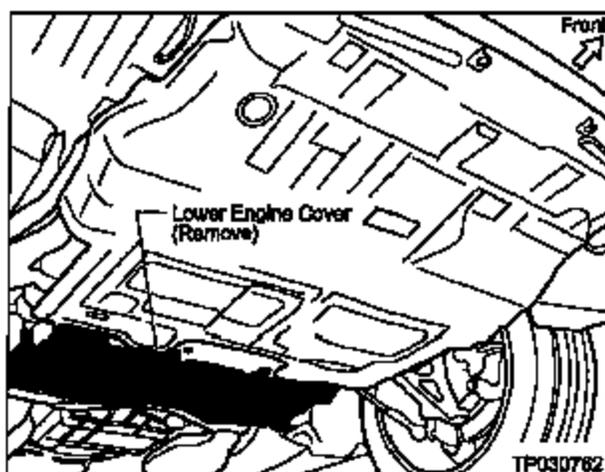

Figure 12
2. Remove the Lower Engine Cover (see Figure 12).